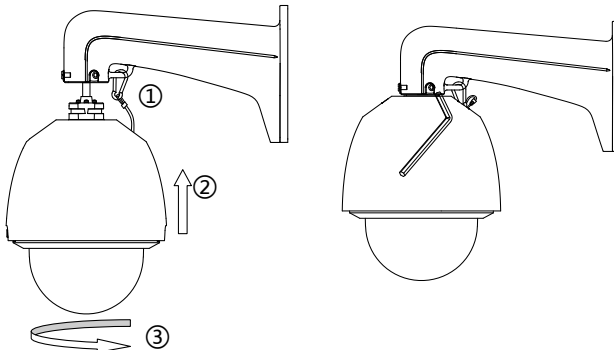

Figure 1-10 Install the Speed Dome
1. Hang the safety rope to the speed dome and then hook to the mount as shown in Figure 1-10 (left).
5. Fasten the two lock screws with the Allen wrench, as shown in Figure 1-10 (right).